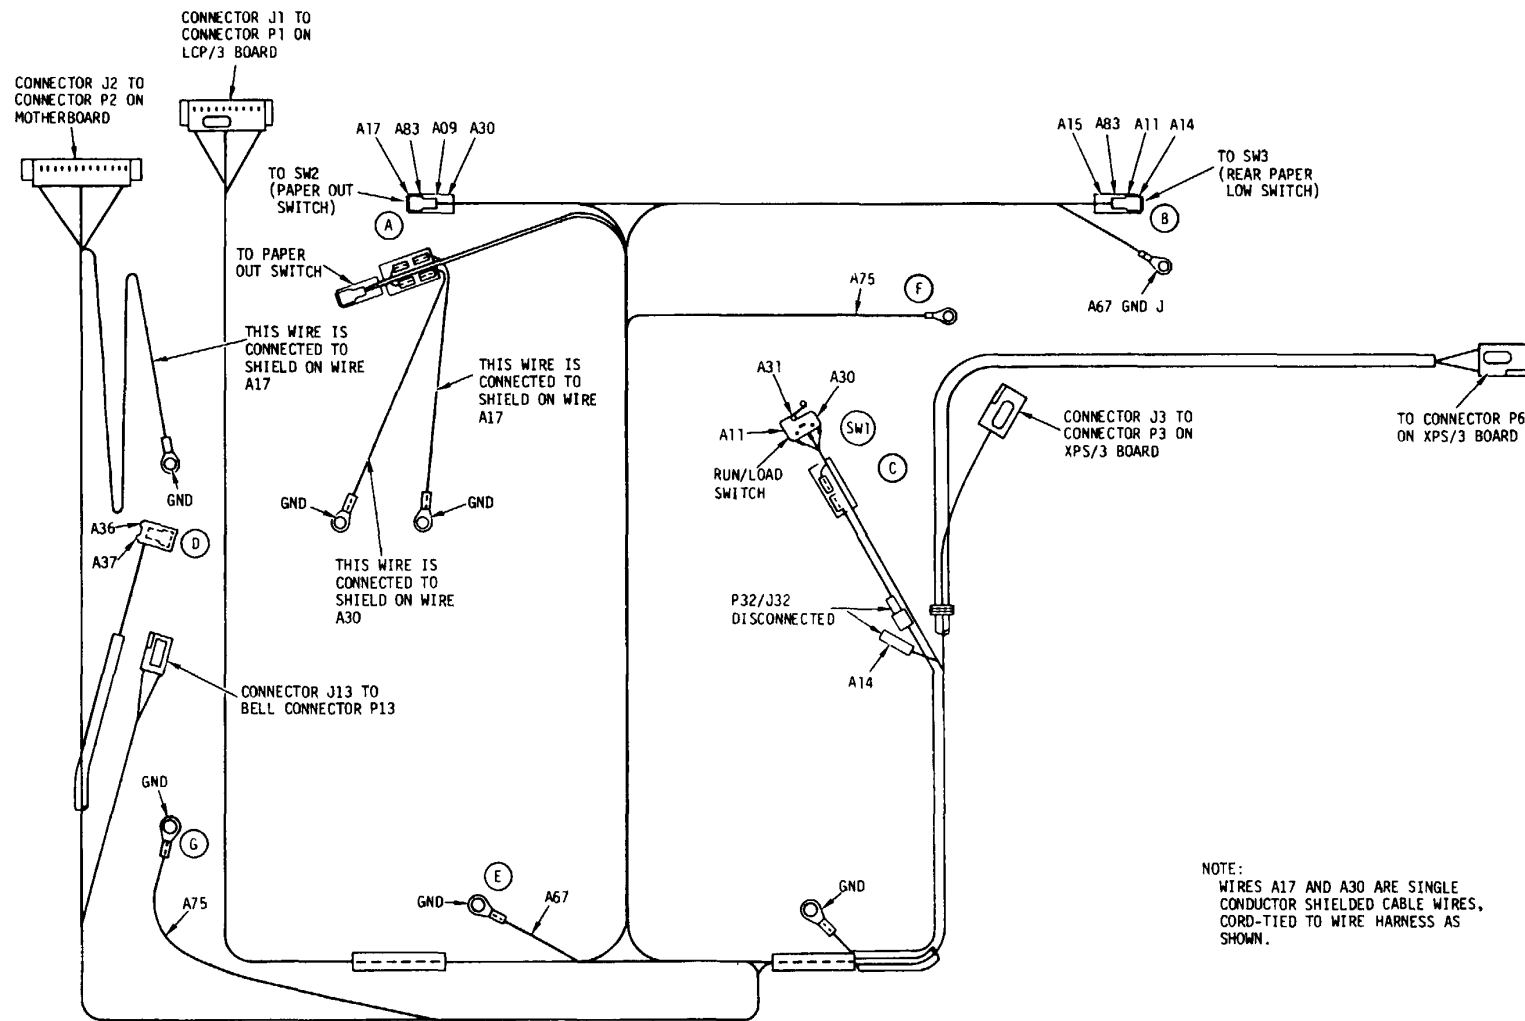

Figure D-1. Universal Wire Harness Connections
c. Universal Wire Harness Connections. This diagram (fig. D-1) and table (table D-1) illustrate wire connections between the universal wire harness and the following:
* Identifies the wire routing illustrated in figure D-1.
** Identifies connector areas in figure D-1.